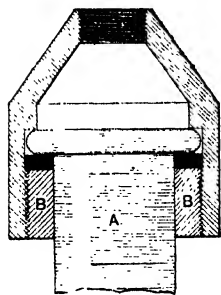
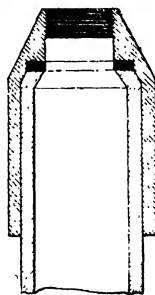

Fig. 532.
Fig. 533.
Figs. 532 and 533.—Fixing Collars on Glass Seltzogenes.
**Fixing Collars on Glass Seltzogenes.**—There are several methods of fixing the tops on seltzogenes. When a solid glass collar is run on the neck of the bottle A (Fig. 532), the best way of fastening the metal top is to have a ring B, about  $\frac{1}{4}$  in. thick, hinged in the centre so that the ring can be made to clasp the neck below the collar: on this ring a thread is cut, by which the metal top is screwed down tight, a rubber washer (shown black) being placed between the top of the bottle and the metal. The illustration (Fig. 532) clearly shows this. Many of the seltzogenes have a plain neck, and in this case the metal top is either made to fit tight, and is forced on with a washer between the neck and the neck of the bottle (Fig. 533), or is cemented on with plaster-of-Paris, Keene's cement, or, better still, with Canada balsam cement.